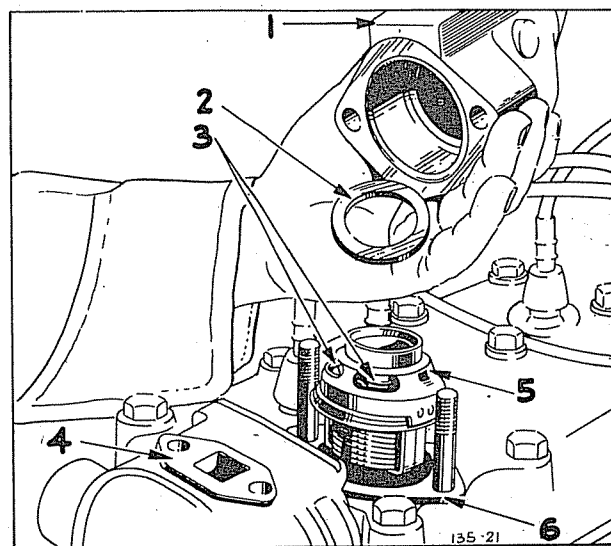

Fig. 3—Typical View of Thermostat.
The thermostat has four by-pass ports (3), Figure 3. It is important that these ports be in the proper position. The thin bridges that divide the ports should be in line with the front and rear of the truck. This will face the two wide faces to the left and right.